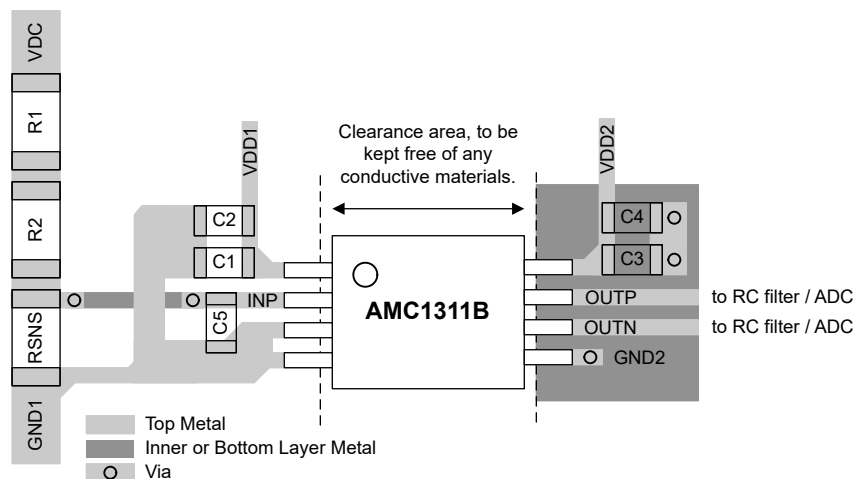

Figure 11-1. Recommended Layout of the AMC1311
Figure 11-1 shows a layout recommendation with the critical placement of the decoupling capacitors (as close as possible to the AMC1311 supply pins) and placement of the other components required by the device. For best performance, place the sense resistor close to the device input pin (IN).